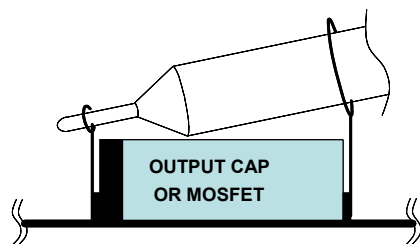

FIGURE 3. PROPER PROBE SET-UP TO MEASURE OUTPUT RIPPLE AND PHASE NODE RINGING
6. Use an oscilloscope to observe output voltage ripple and Phase node ringing. For accurate measurement, please refer to Figure 3 for proper test set-up.